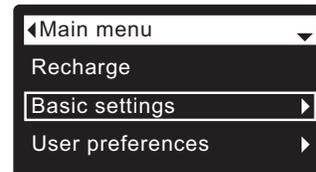

FIG. 54
1. From any of the rolling status screens, press the **SELECT** (O) button to display the **Main menu**.
2. Press the **DOWN** (▼) button to scroll through the menu options until **Basic settings** is highlighted (See Figure 54).